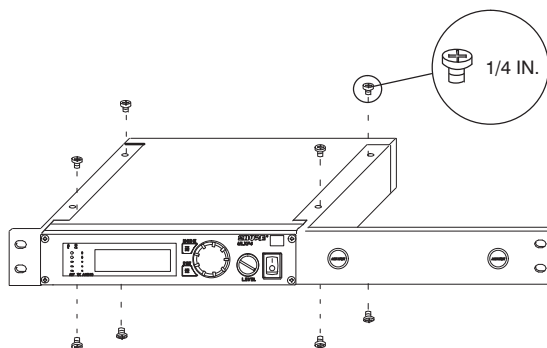

FIGURE 49
1. Align the supplied rack-mount brackets over the holes on each side of the receiver, as shown in Figure 49.